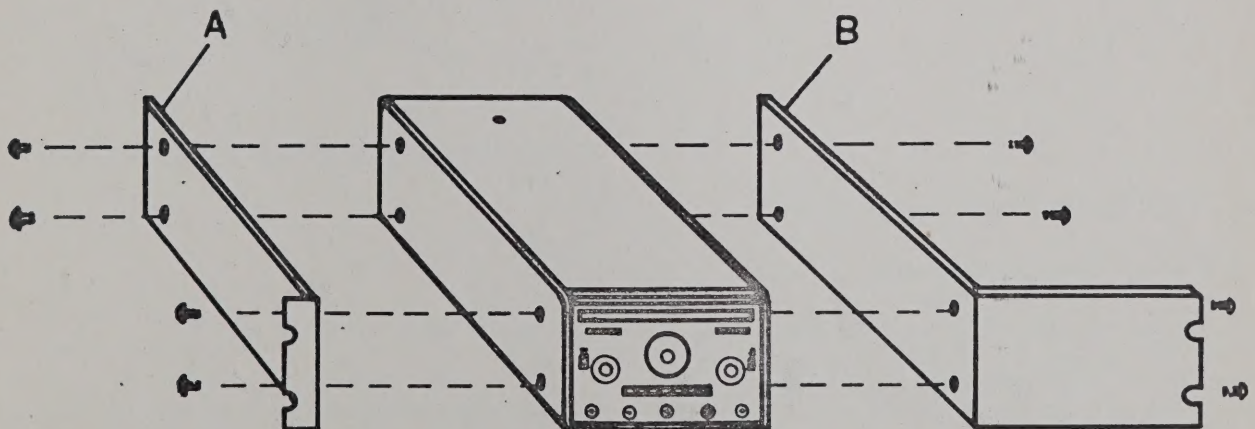

Figure 2-1. K-103 Rack Mounting
2.1.4 K-103, Rack Mounting Kit (Refer to Figure 2-1)